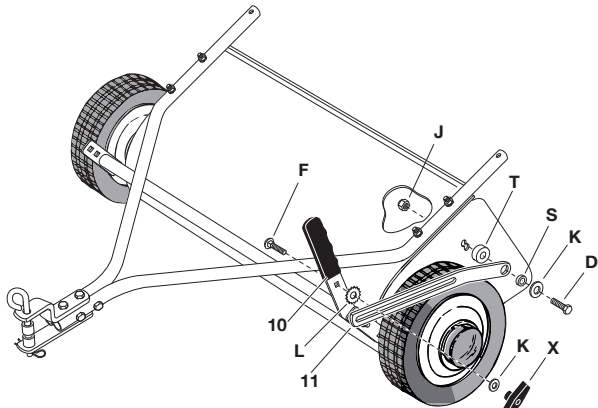

Figure 10
STEP 10: (SEE FIGURE 10)
- Attach the rear of the height adjustment strap (11) to the sweeper assembly using a 5/16-18 x 1-1/4" hex bolt (D), 5/16" flat washer (K), pivot bushing (S), spacer bushing (T), and 5/16-18 nylock nut (J).
- Attach the front of the height adjustment strap (11) to the handle (10) using a 5/16-18 x 1" carriage bolt (F), star washer (L), 5/16" flat washer (K), and thread knob (X). Securely tighten all hardware.